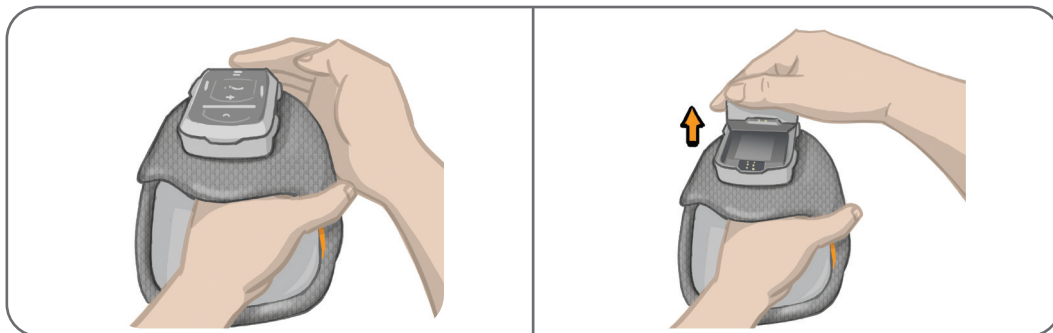

Figure 8-12: Removing the EPG
2. Pull the top of the EPG away from the cradle. See Figure 8-12.